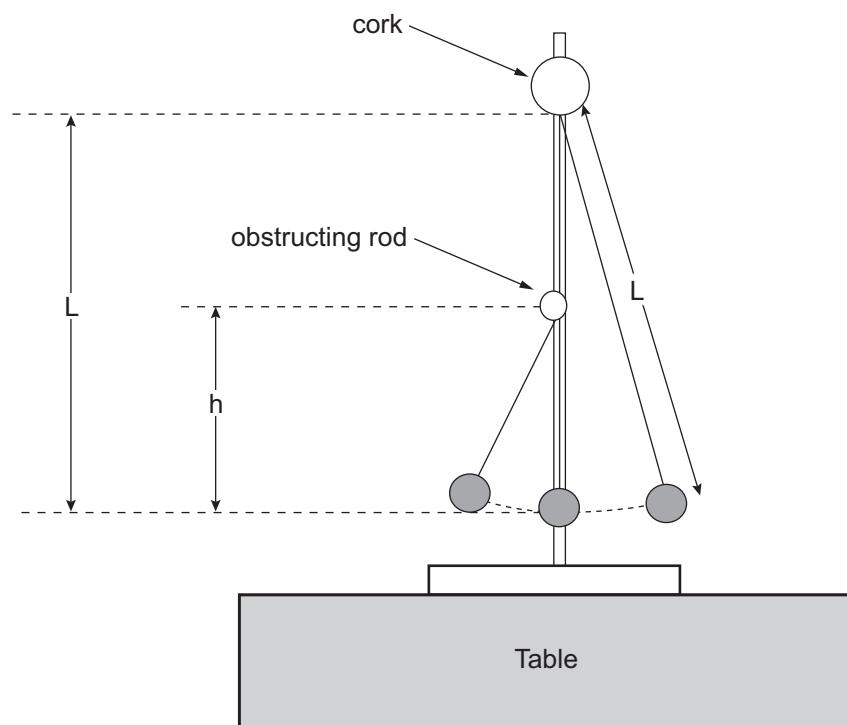

Fig. 1.1
You are provided with a pendulum suspended from a cork attached to a retort stand. The length L of the pendulum is set at 70.0 cm and **should not be changed during the experiment**. A second clamp is attached to the retort stand so that the rod of the clamp obstructs the motion of the pendulum as it swings, as shown in Fig. 1.1.
- (a) h is the distance between the position of the rod and the centre of the pendulum, as shown in **Fig 1.1**. Adjust h to a value of about 10cm. You can change h by moving the boss holding the obstructing rod, but the length L of the pendulum must not be altered. Displace and release the pendulum so that it swings to and fro with a small amplitude, with the string of the pendulum hitting into the obstructing rod on each oscillation. Take readings to allow you to determine an accurate value for the period of oscillation T. Record all your results in **Table 1.1** adding any extra headings required. Repeat the procedure until you have five sets of corresponding values of h and T for heights in the range from 10 cm to 50 cm, at approximately 10 cm intervals.